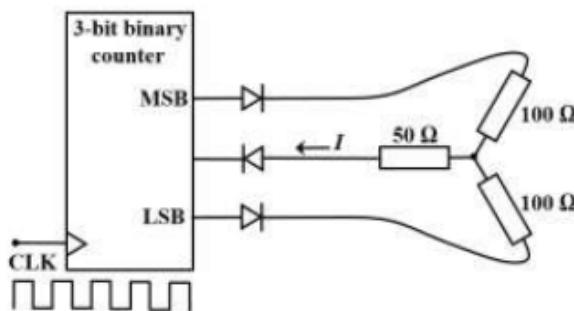

Fig. 5.6
6. For the 3-bit binary counter shown in Fig. 5.6, the output increments at every positive transition in the clock (CLK). Assume ideal diodes and the starting state of the counter as 000. If output high is 1V and output low is 0V, the current  $I$ (in mA) flowing through the  $50\Omega$  resistor during the 5th clock cycle is (up to one decimal place) (GATE IN 2018)